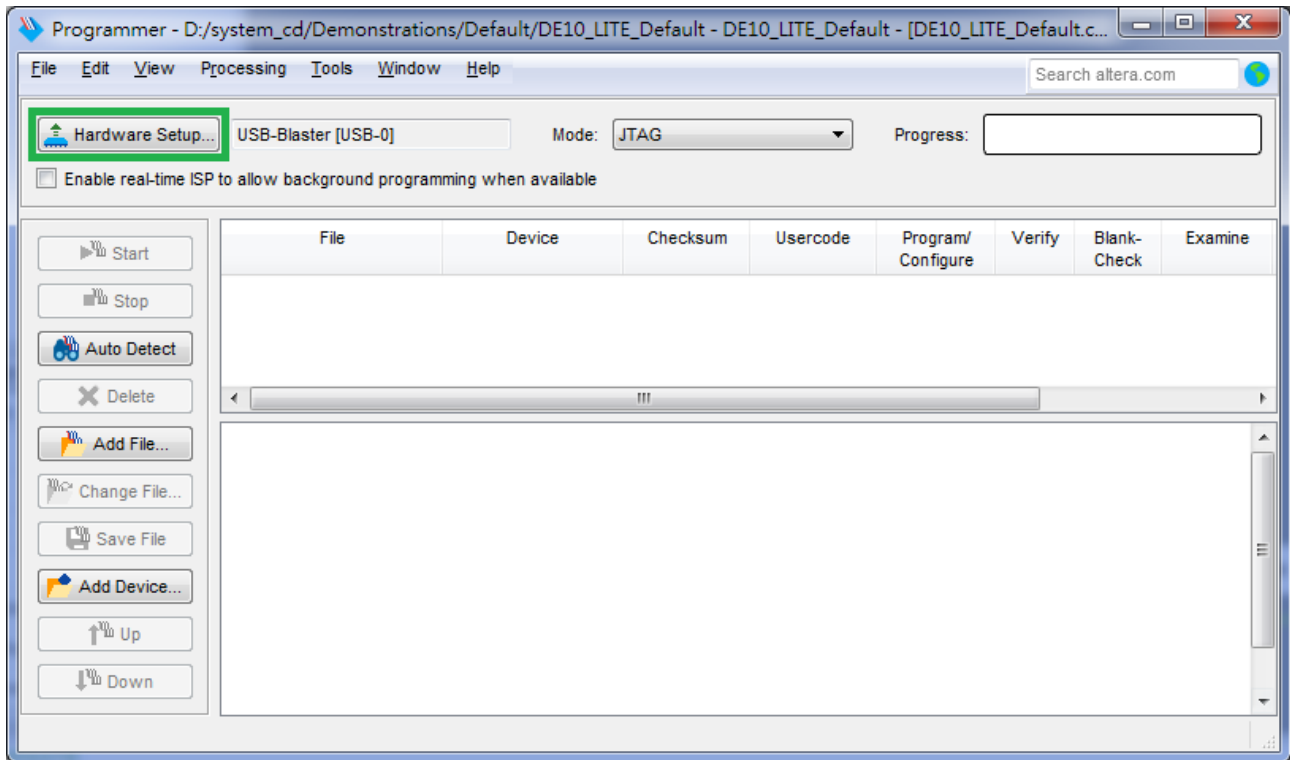

Figure 3-2 Programmer Window
1. Open the Quartus II programmer, please Choose Tools > Programmer. The Programmer window opens. See Figure 3-2.
2. Click “Hardware Setup”, as circled in Figure 3-2.